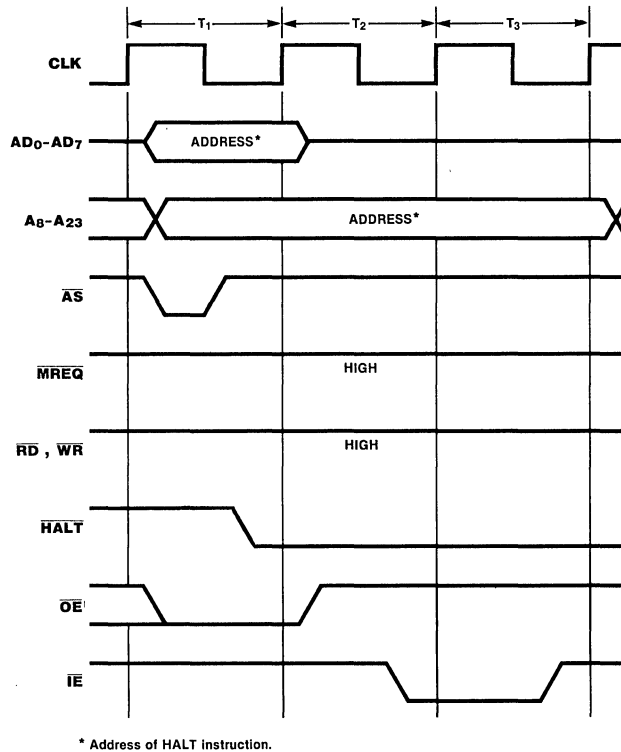

Figure 41. Halt Timing
**Halt Transactions.** The Halt bus transaction does not transfer data (Figure 41). It looks like a memory transaction, except that  $\overline{RD}$  and  $\overline{WR}$  remain High and no data is transferred. The  $\overline{WAIT}$  line is not sampled during the Halt transaction.